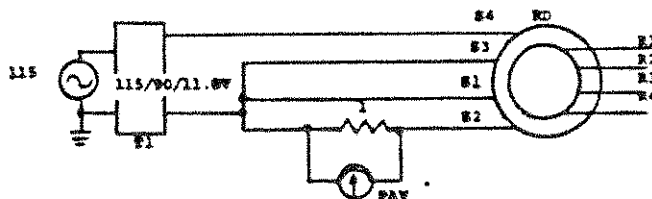

Figure 7-27. Input Current Test (RD/RC)
- a. Set up equipment as shown in figure 7-27.